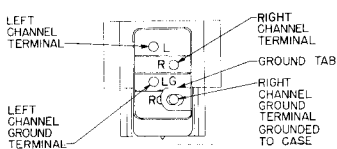

FIGURE 1
CONNECTIONS (see Figure 1): Right "hot" lead (usually red) to "R," right ground (usually green) to "RG." Left "hot" lead (usually white) to "L," left ground (usually blue) to "LG." If metal head is causing ground loop hum, remove the ground tab. The metallic cartridge shield is disconnected from the right channel ground by the removal of the ground tab.
2. Connect leads to cartridge (see Figure 1).
2. Enfilez les cosses sur la cellule (voir fig. 1).